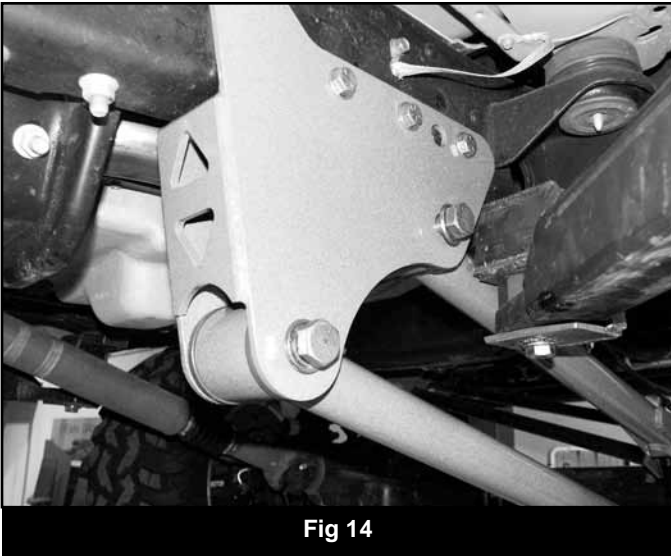

Fig 14
33. Install the assembled upper control arm in the new frame bracket and fasten with a  $\frac{3}{4}$ " x 5-1/2" bolt, nut and  $\frac{3}{4}$ " SAE flat washers from bolt pack #432. The two tabs on the control arm go up. Leave hardware loose. (Fig. 14)